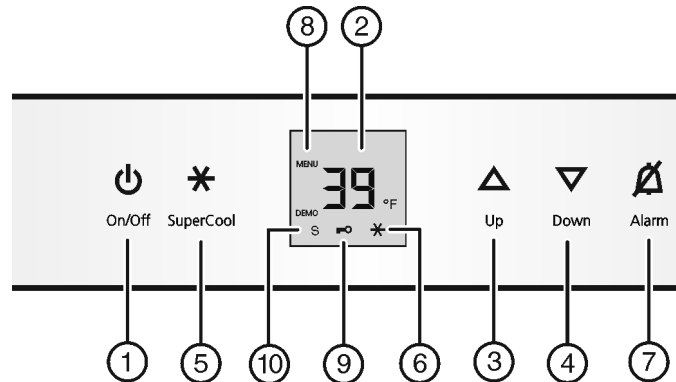

Fig. 3
- Press On/Off button Fig. 3 (1).
- ▶ Activate setting mode: Press SuperCool button *Fig. 3 (5)* for about 5 seconds.
- ▷ The SuperCool button *Fig. 3 (5)* will flash.
- ▶ Using Up button *Fig. 3 (3)*/ Down button *Fig. 3 (4)* select °.
- ▶ To confirm: Briefly press SuperCool button *Fig. 3 (5)*.
- ▶ Using Up button *Fig. 3 (3)*/ Down button *Fig. 3 (4)* select °F or °C.
- ▶ To exit setting mode: Press On/Off button *Fig. 3 (1)*.
- ▶ Select setting mode: Press and hold the SuperCool button *Fig. 3 (5)* for approx. 5 seconds.
- ▷ The Menu symbol *Fig. 3 (8)* lights up.
- ▶ Using the Up *Fig. 3 (3)* or Down button *Fig. 3 (4)*, select **c**.
- ▶ Press the SuperCool button *Fig. 3 (5)* briefly to confirm. When **cl** is shown on the display:
- ▶ To switch on the child proof lock, press the SuperCool button *Fig. 3 (5)* briefly.
- ▷ The Child safety symbol *Fig. 3 (9)* lights up. **c** flashes on the display.
- ▶ To switch the child proof lock off, press the SuperCool button *Fig. 3 (5)* briefly.
- ▷ The Child safety symbol *Fig. 3 (9)* goes out. **c** flashes on the display.
- ▶ To deactivate setting mode: Press the On/Off button *Fig. 3 (1)*.
- ▶ Press Alarm button *Fig. 3 (7)*.
- ▶ To activate setting mode: Press and hold the SuperCool button *Fig. 3 (5)* for approx. 5 s.
- ▶ To access the Sabbath mode function: Briefly press the SuperCool button *Fig. 3 (5)*.
- To turn on Sabbath mode, briefly press the SuperCool button *Fig. 3 (5)*.
- To turn off Sabbath mode, briefly press the SuperCool button *Fig. 3 (5)*.
- To deactivate setting mode: Press the On/Off button *Fig. 3 (1)*.
- ▷ The Sabbath Mode symbol *Fig. 3 (10)* appears on the temperature display as long as Sabbath Mode is active.